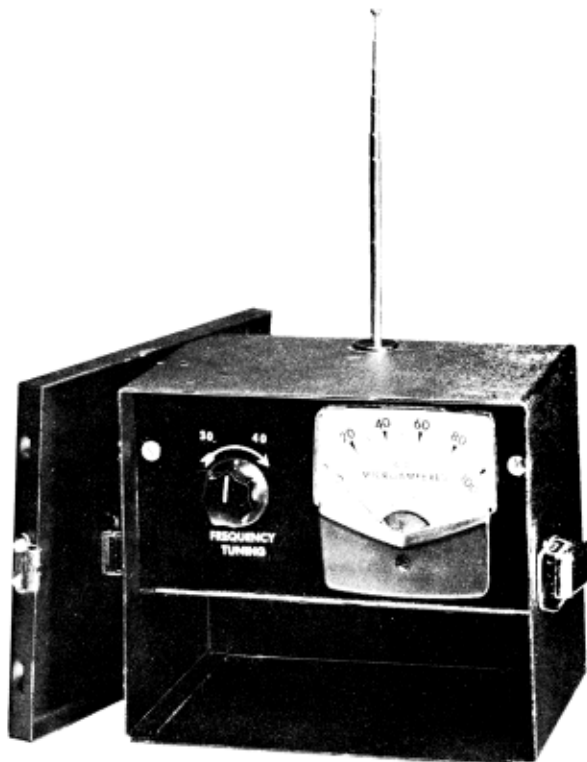

Figure 5. Model FS-1 Field Strength Meter
13. **FIELD STRENGTH METER MODEL FS-1.** The Radio Industries Model FS-1 Field Strength Meter shown in figure 5 is designed for use with the Model HT-1A Transceiver and similar equipment in the 30 to 40 megacycle frequency range. The schematic diagram is shown in figure 11. The following steps will aid the user in obtaining optimum performance and results with the Field Strength Meter: